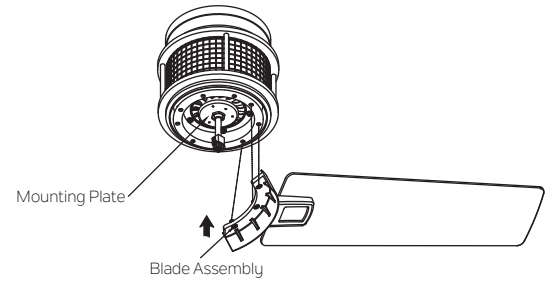

Fig. 14
Step 2. Fasten blade assembly to the holes located on the bottom of the flywheel. Tighten the two "pre- installed" motor screws in the blade bracket. Repeat steps for the remaining blades assemblies.(Fig. 14)